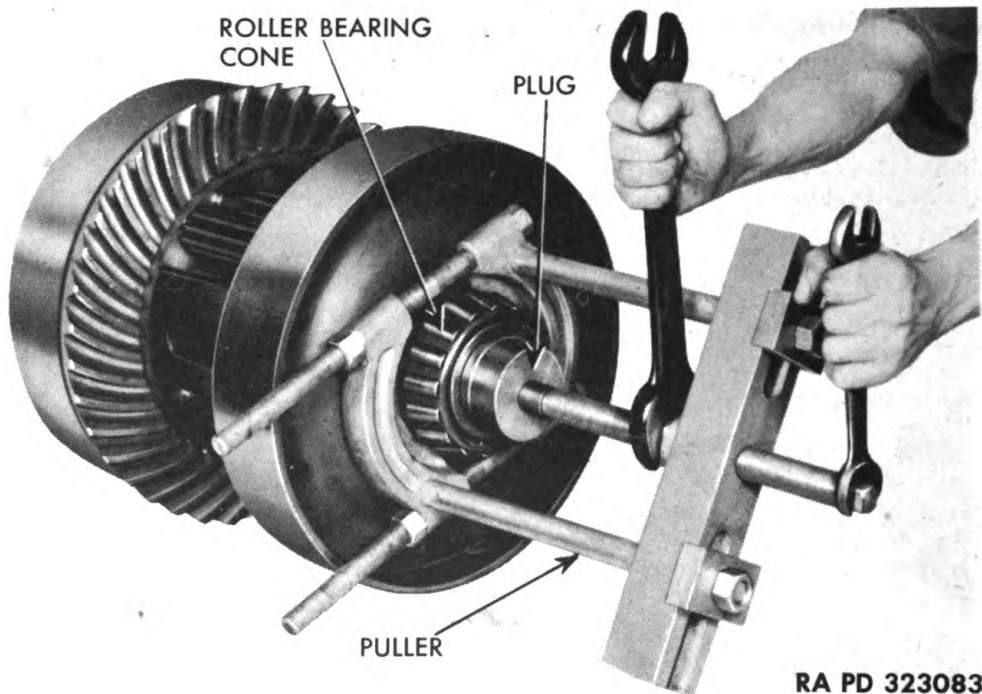

Figure 83 — Removing Differential Roller Bearing Cone, Using Puller (41-P-2905-60)
a. **Remove Roller Bearing Cone and Spacer (fig. 83).** Install puller (41-P-2905-60) over roller bearing cone, and place a plug in end of compensating case cover hub so that puller screw will center on plug. Tighten puller screw nut, and remove bearing. Remove bearing spacer washer. Remove roller bearing cone and spacer from opposite side of differential in same manner.